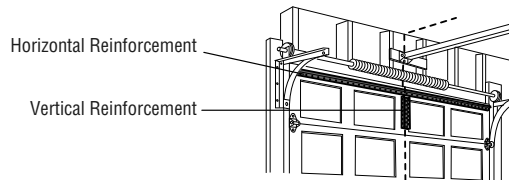

FIGURE 1
- Drill 3/16" fastening holes. Secure the door bracket using the two 1/4"-14x5/8" self-threading screws. (Figure 1)